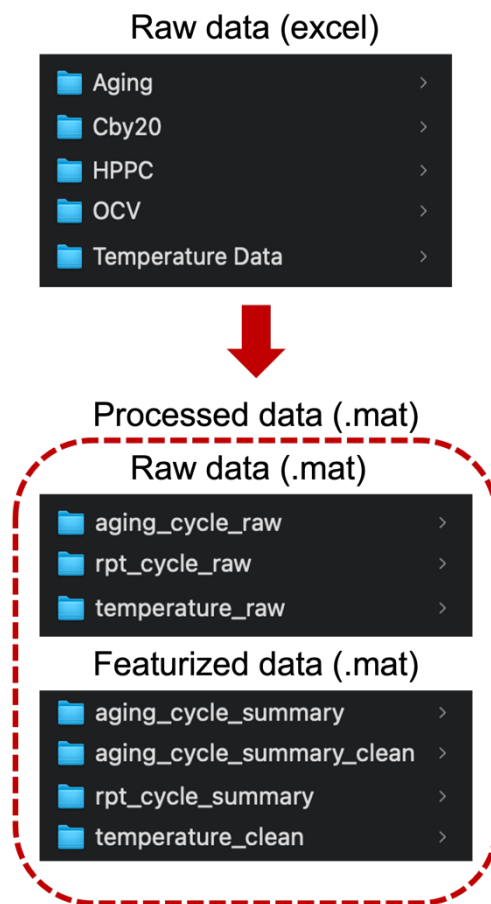

Figure 1: Dataset structure showing folders in the raw excel data, raw .mat data, and featurized data
- **Aging**: Contains folders for each cell with files for the aging cycles data of the experimental campaign. Details of the aging protocol are given in the main paper in Section 2.1 and Figure 1.
- **Cby20**: Contains folders for each cell with files containing the C/20 capacity test data. Details of C/20 test are given in Supplemental Information (SI) Section 2 and main paper Figure 1.
- **HPPC**: Contains folders for each cell with files containing the HPPC test data. Details of HPPC test are given in SI Section 2 and main paper Figure 1.
- **OCV**: Contains folders for each cell with files containing the C/40 OCV test data. Details of C/40 OCV test are given in SI Section 2 and main paper Figure 1.